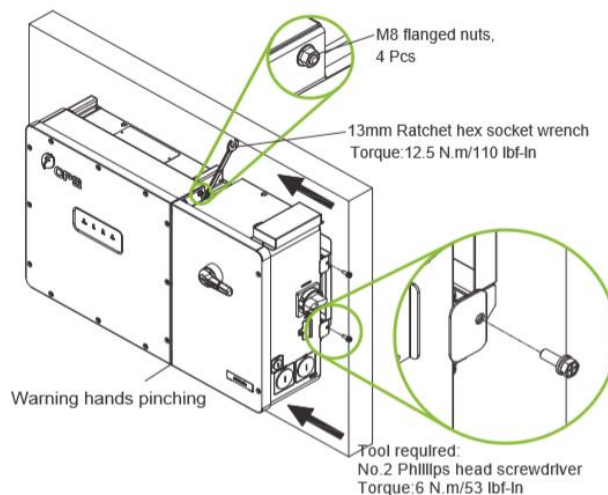

Figure 3-16 Installation of the Wire Box
- e. Secure the wire box to the bracket with the M6x18 combination screw torqued to 53 in-lbs (6 N·m) (Figure 3-16):